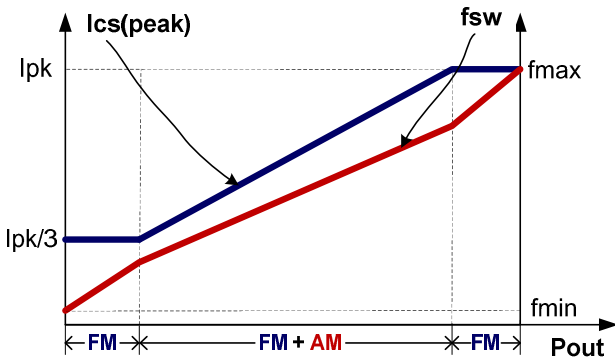

Fig.4
To meet the tight requirement of averaged system efficiency and no load power consumption, a hybrid of frequency modulation (FM) and amplitude modulation (AM) is adopted in DP2525JD which is shown in the Fig 4.